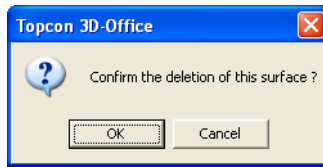

Figure 8-19. Delete Grid Surface
2. Click **OK** to confirm the deletion (Figure 8-19 on page 8-15).